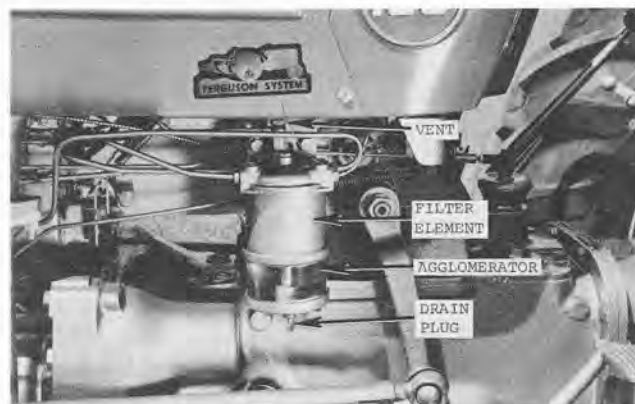
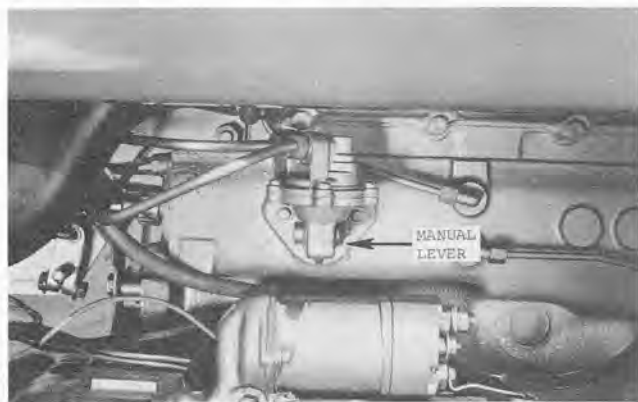

Fig. 53 - Fuel Filter Diesel
Fig. 54 - Primary Fuel Pump
Fuel Filter (See Fig. 53)
TO BLEED THE SYSTEM, proceed as follows: (See Figs. 53, 54, and 55).
1. Loosen the air-vent plug on the fuel filter. (Fig. 53)
2. Pump the manual lever on the primary fuel pump (Fig. 54) until air-free fuel comes out the air-vent plug. Tighten the vent plug securely. (Fig. 53)